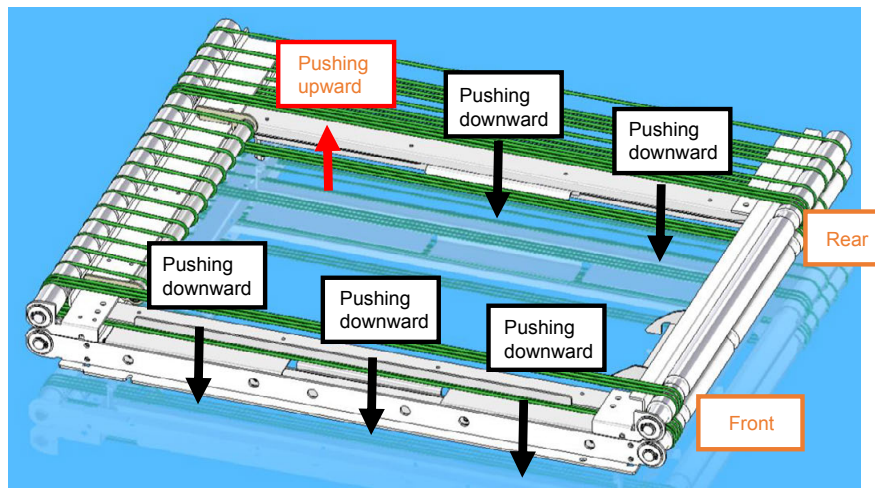

Fig. 1: Pushing directions for all front clamps and rear right and left clamps for installation
1. Install all front clamps and the rear right clamp while pushing downward. Install the rear left clamp while pushing upward. (Fig. 1)